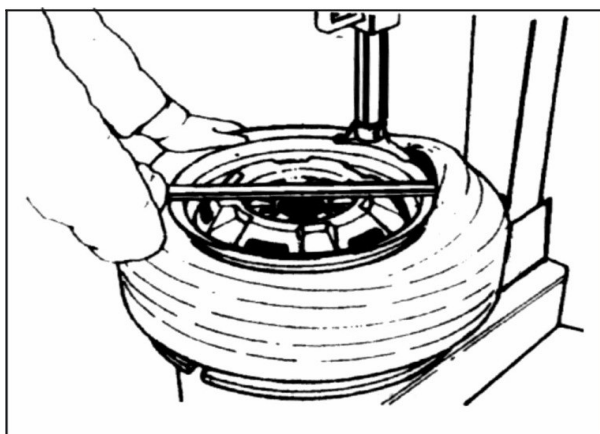

Fig 13
4. Lift the bead onto the mount/demount head with the bead lifting tool, and step on the turntable control pedal 8 (in Fig.2 step on the pedal 8 and in Fig 3 step on the pedal 2) to turn the turntable clockwise till the bead is completely separated (Fig.13), it is suggested to place the mount/demount head about 10mm to the right side of the air valve if the wheel has a tube, so as not to damage the tube.